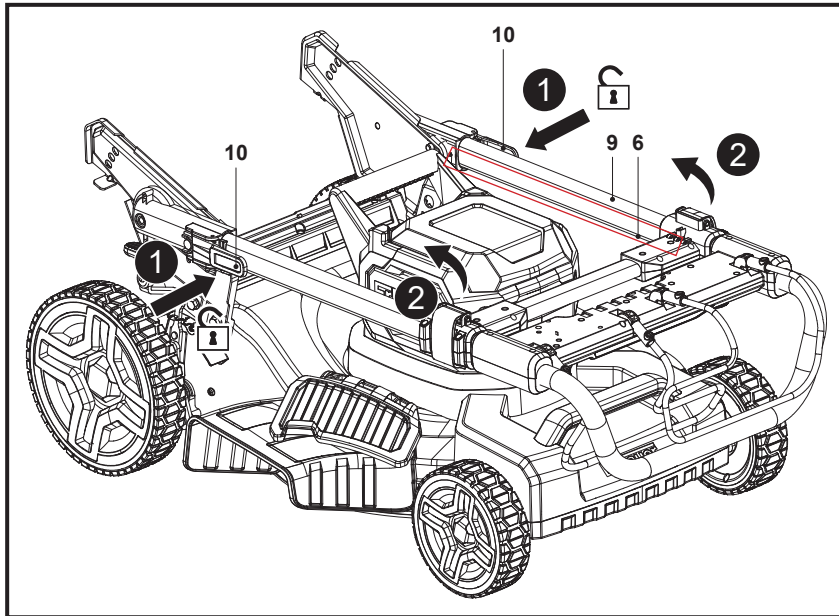

Fig. 1
1. Squeeze and disengage the two lock levers (10) on both sides of the lower handle bar (9) (Fig.1, step 1).
2. Hold the two lock levers (10) in position and fold up the handle assembly anticlockwise to leave its locking position (Fig. 1, step 2). Make sure that the control cord (6) runs on the lower handle bar (9).